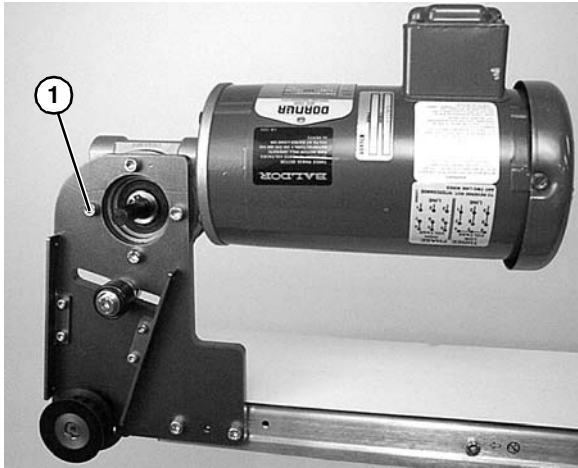

Figure 28
4. Remove four (4) gear reducer mounting screws (**Figure 28, item 1**). Remove gearmotor.
10. Install gearmotor to mounting bracket and tighten screws (**Figure 28, item 1**) to 103 in-lb (12 Nm).